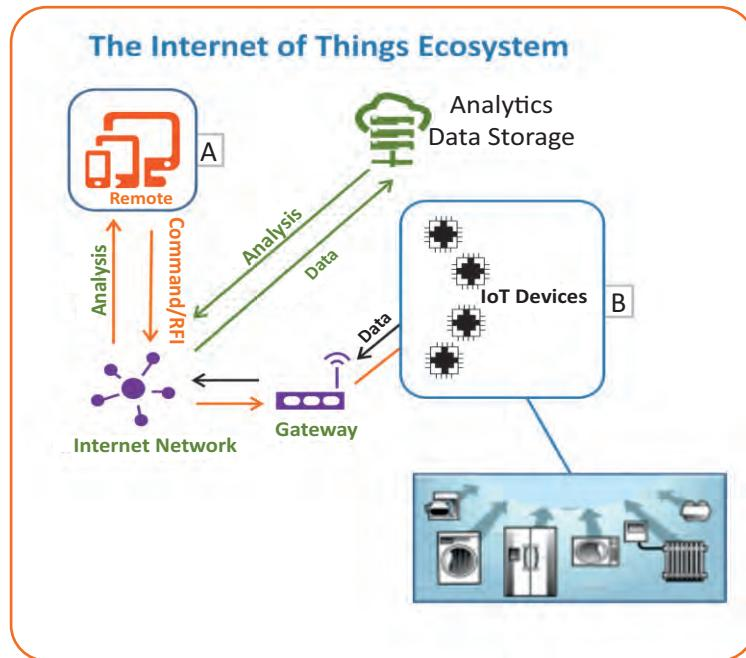

Fig.1.9 – Characteristic general arrangement of IoT
- A real-time webpage will be essential with a user configurable front end to control and monitor the load (See A in the figure 1.9).